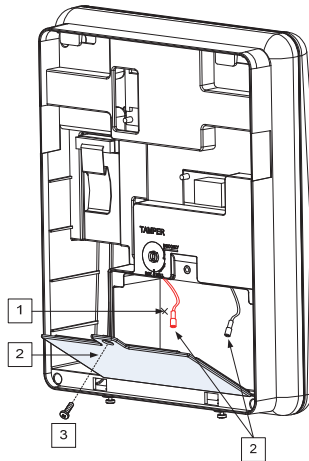

Figure 4: Battery Compartment
1. Remove the battery-cover screw (see Figure 4, detail 3) and pull the cover outward.